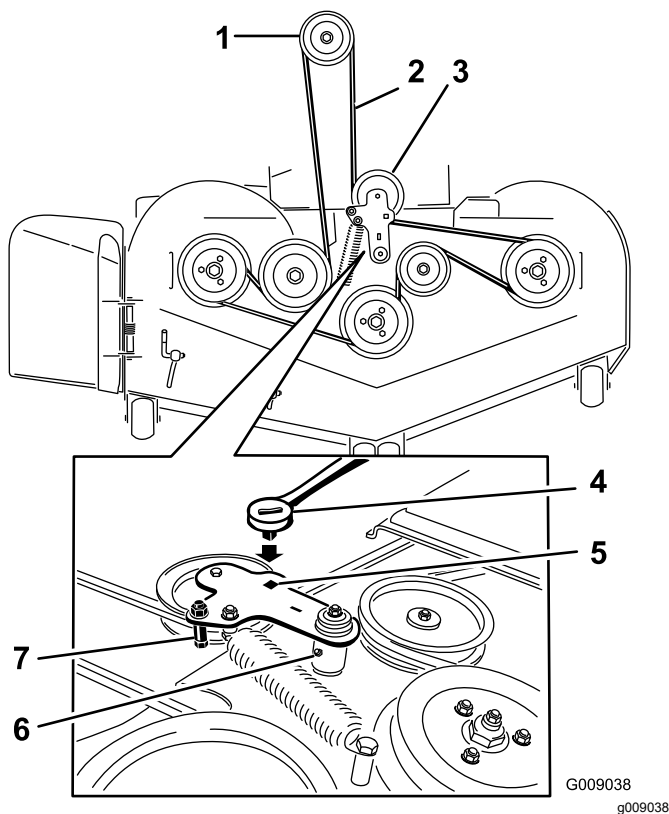

Figure 105
5. Remove the floor pan and insert a ratchet into the square hole in the deck idler (Figure 105).
6. Rotate the deck idler clockwise and remove the mower belt (Figure 105).